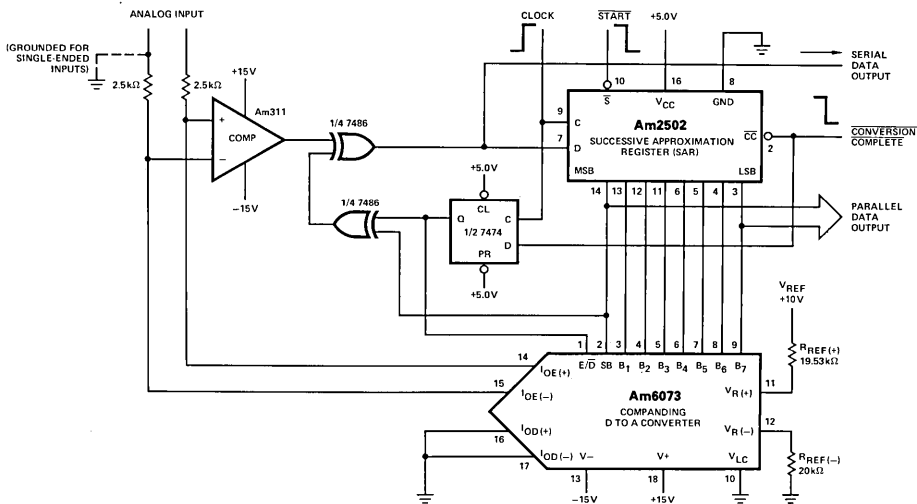

Figure 3. Detailed Encoder Connections.
In Figure 3, an offset current equal to a half step in each chord is required to obtain the correct encoder transfer characteristic. Since the size of this step varies from one chord to another, it cannot easily be added externally. As indicated in the block diagram this required half step of encode current, I_{EN} , is automatically added to the I_{OE} output through the internal chip design. This additional current will, for example, make the ideal full scale current in the encode mode larger than the same current in the decode mode by $32\mu A$. Similarly, the current levels in the first chord near the origin will be offset by $0.5\mu A$, which will bring the ideal encode current value for step 0 on chord 0 to $\pm 1.0\mu A$ with respect to the corresponding decode current value of $0.5\mu A$. This additional encode half step of current can be used for extension of the output dynamic range from 62dB to 66dB, when the converter is performing only the decode function. The corresponding decoder connection utilizes the E/\bar{D} input as a ninth digital input and has the outputs $I_{OD(+)}$ and $I_{OE(+)}$ and the outputs $I_{OD(-)}$ and $I_{OE(-)}$ tied together, respectively.
When encoding or compression of an analog signal is required, the Am6072 can be used together with a Successive Approximation Register (SAR), comparator, and additional SSI logic elements to perform the A/D data conversion, as shown in Figure 3. The encoder transfer function, shown on page 1, characterizes this A/D converter system. The first task of this system is to determine the polarity of the incoming analog signal and to generate a corresponding SB input value. When the proper START, (S), and CONVERSION COMPLETE, (\bar{C}), signal levels are set, the first clock pulse sets the MSB output of the SAR, Am2502, to a logic 0 and sets all other parallel digital outputs to logic 1 levels. At the same time, the flip-flop is triggered, and its output provides the E/\bar{D} input with a logic 0 level. No current flows into the I_{OE} outputs. This disconnects the converter from the comparator inputs, and the incoming analog signal can be compared with the ground applied to the opposite comparator input. The resulting comparator output is fed to the Am2502 serial data input, D, through an exclusive-or gate. At the same time, the second input to the same exclusive-or gate is held at a logic 0 level by the additional successive approximation logic shown in Figure 3. This exclusive-or gate inverts the comparator's outputs whenever a negative signal polarity is detected. This maintains the proper output current coding, i.e., all ones for full scale and all zeros for zero scale.